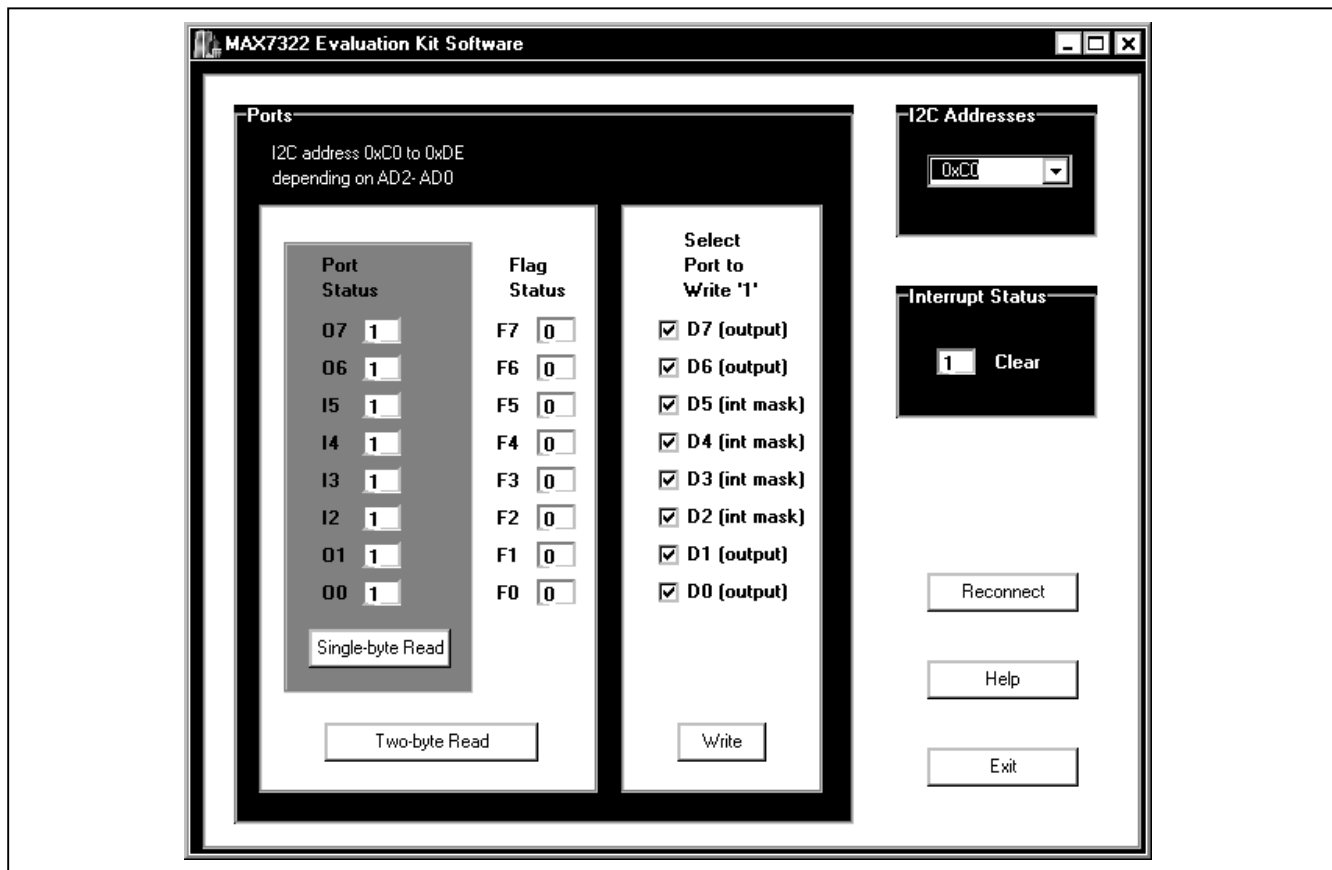

Figure 1. MAX7322 Evaluation Software Main Window
- 8) Start the MAX7322 EV kit software by opening its icon in the **Start** menu. The GUI main window appears, as shown in Figure 1.
To start the MAX7322 EV kit software, double click on the MAX7322 EV kit icon created during installation. The GUI main window appears, as shown in Figure 1.
The **Ports** group box shown in Figure 1 contains the read panel and write panel. The read panel consists of two sections: **Port Status** and **Flag Status**.